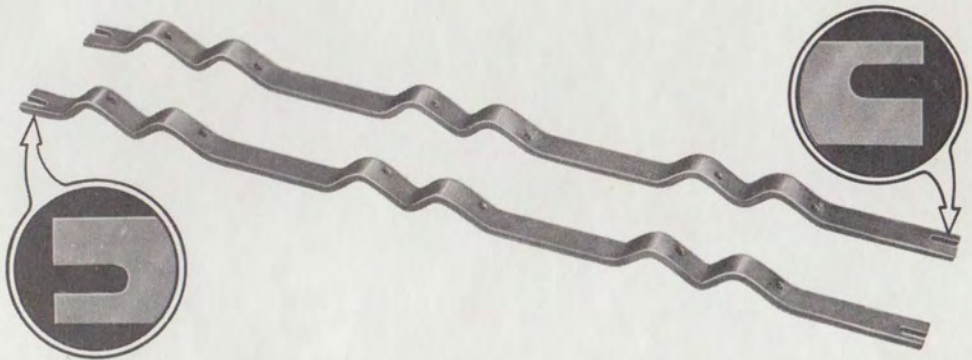

Fig. 51—Bent Mounting Bars per ED-69143-70
10.08 The bent mounting bars per ED-69143-70† (Fig. 51) are used to mount angle-bracket KTUs on 23-inch relay racks and in 4-, 11-, 18-, 26-, and 45-plate apparatus cabinets.